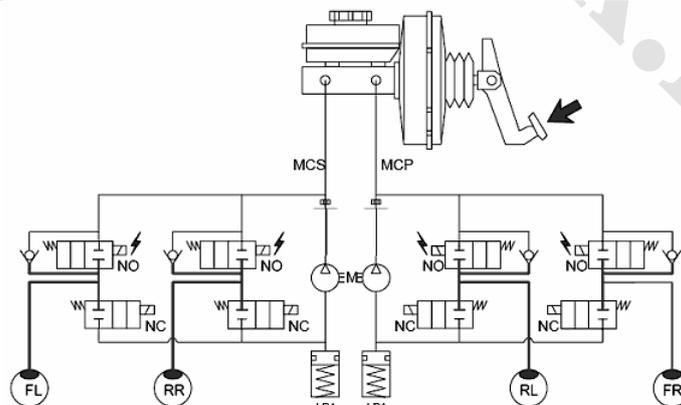

Fig. 3-5
3. ABS operation (maintaining) condition (Table 3-3 and Fig. 3-5).